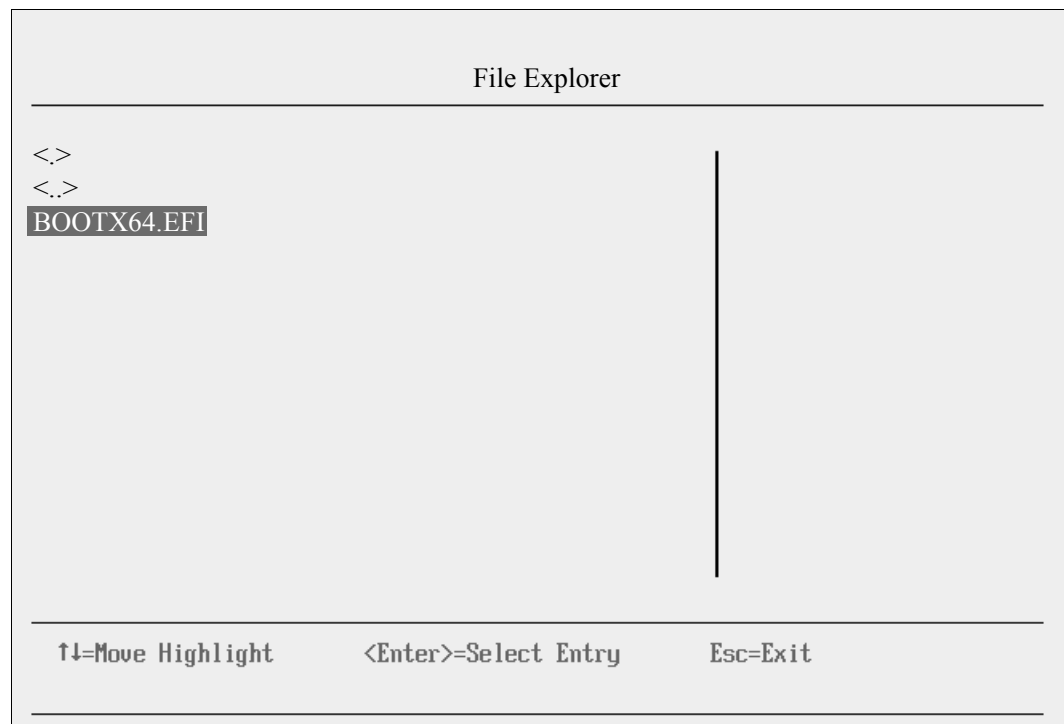

Figure 9-90 Selecting the *BOOTX64.EFI* file
- Now that you are browsing the DVD, select **EFI**, select **BOOT**, and then select **BOOTX64.EFI** (Figure 9-90). This file name might be different if you are booting other versions of Windows, VMware, or Linux.